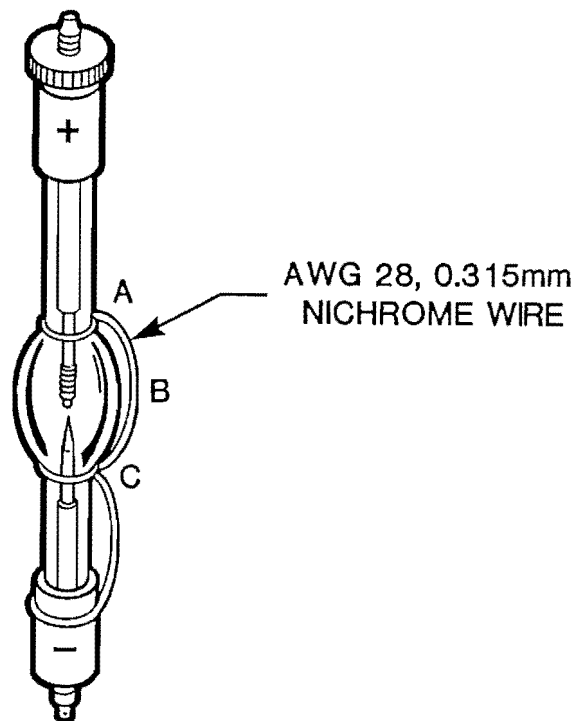

Fig. 14 Starter wire installation on Xe lamp.
- b Wearing cots or gloves loop the wire around the top of the lamp envelope, (A) in Fig. 14, twisting the end securely.
- c Bring the wire down the side of the envelope, (B), nearest to the vacuum "fill/breakoff" mark. Keep the wire snug against the glass.
- d Loop the wire around the bottom of the envelope (C), and twist the end to ensure it does not slide.